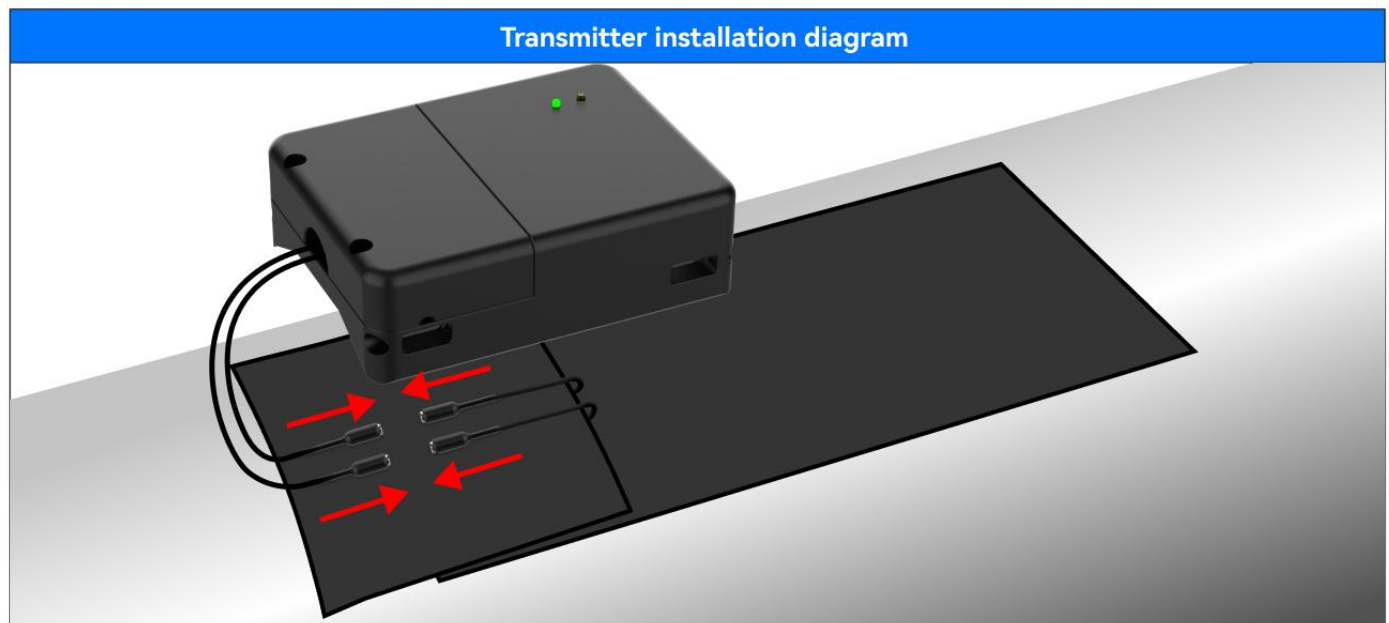

Figure 3.28
1. Connect the connector of the strain gauge to the connector of the transmitter. Wrap the excess cable around the connector as shown in Figure 3.28.